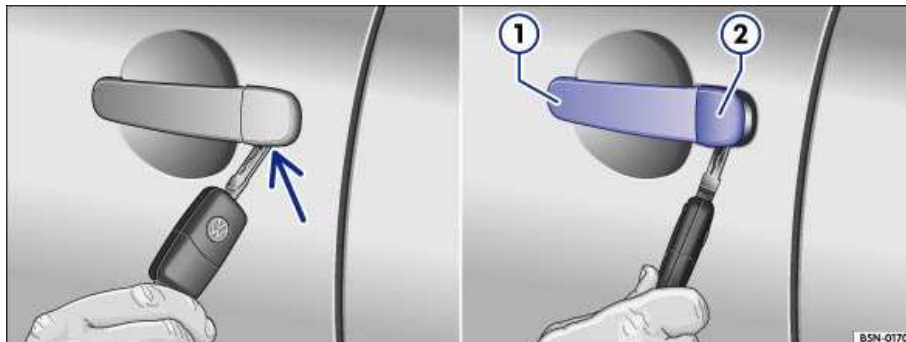

Fig. 34 Door handle on driver's door: Concealed lock cylinder.
- Insert the remote control key from below into the opening in the cover ⇒ Fig. 34 (arrow) ⇒ .
- Turn the key to unclip the cover cap (2).
- Pull the door handle (1) and remove the cover cap (2).